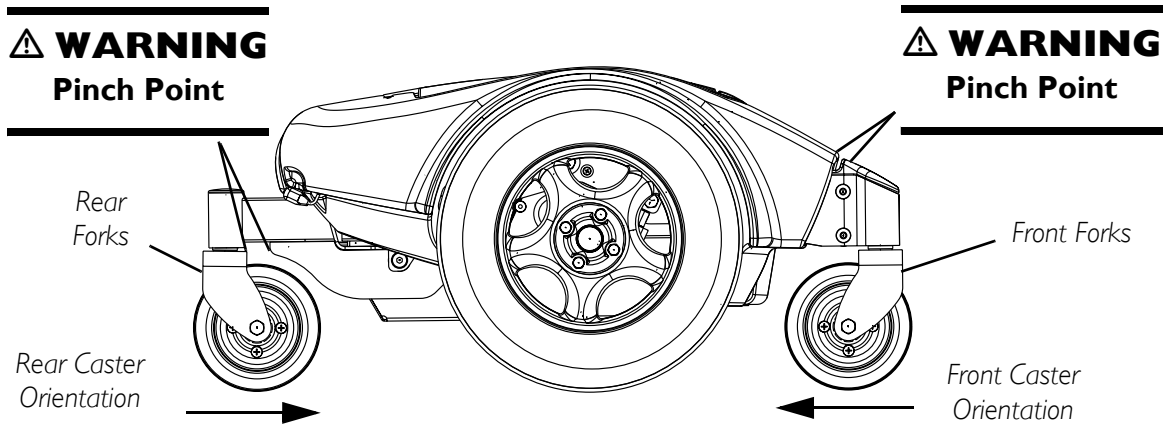

FIGURE 3.2 - LIFTING/STAIRWAYS - ORIENTATION OF CASTERS AND PINCH POINTS
5. Ensure that the casters are oriented as shown in FIGURE 3.2.
6. Using the rear and front forks as hand hold supports, transfer the wheelchair base to desired location. Refer to FIGURE 3.2.